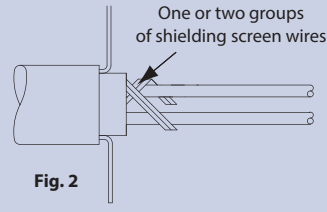

Fig. 2
- 2.3 Unravel one or two groups of wires from the individual shielding or screen wires, then remove the remainder of the individual shielding or screen wires (See Fig. 2) and twist the wires along their full length.